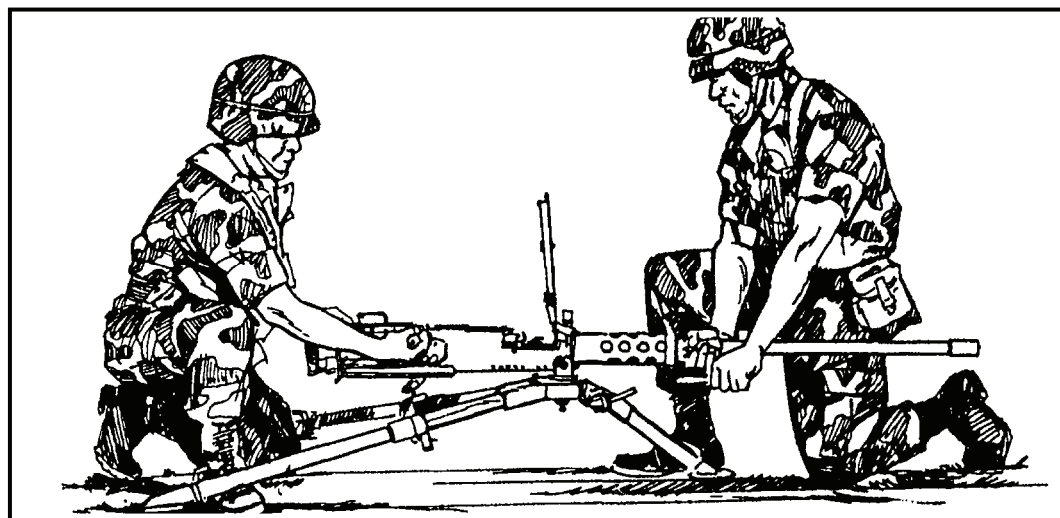

Figure 3-18. Screwing in the barrel.
\*(2) With the bolt retracted, screw the barrel to the right fully into the barrel extension; then unscrew the barrel to the left two clicks. Allow the bolt to go forward. Try turning the barrel in either direction; the barrel should not rotate in either direction. If the barrel rotates, check the barrel notches and the barrel-locking spring for damage (Figure 3-18).